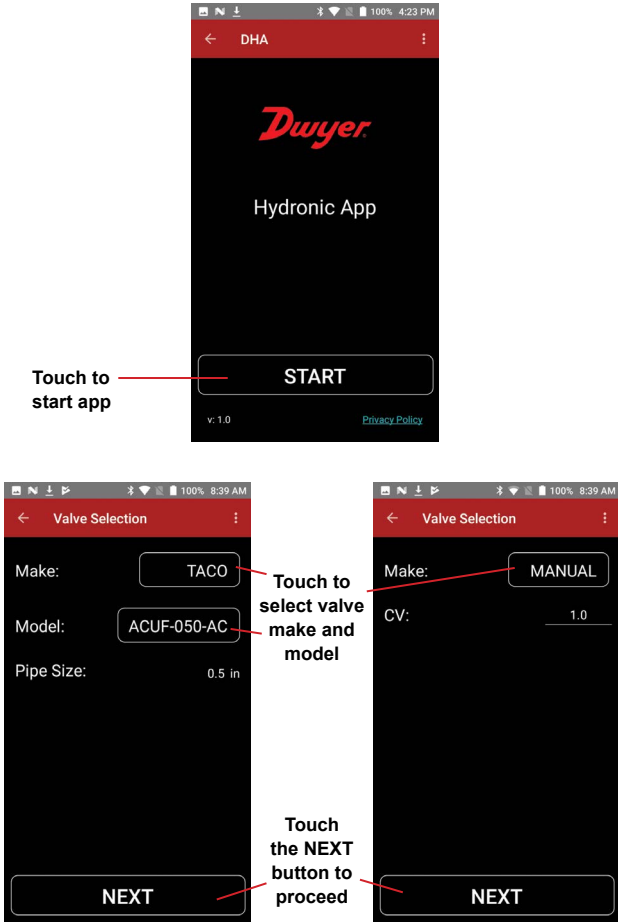

Figure 2
Once the app is open, the Dwyer Hydronic App home screen will be shown. Press the START button. The Valve Selection screen will now be displayed. Press the make button to select a manufacturers valve. Then press the model button to select a valve model. In the list of valve manufacturers, there is an option to choose a manual valve. The flow coefficient (CV) is needed to use the manual valve, see Figure 2. Press the next button to proceed.